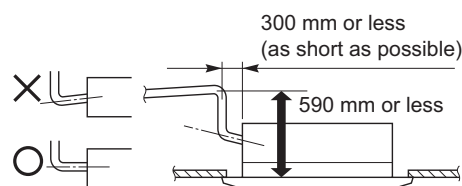

Fig. 2-171
- If it is necessary to increase the height of the drain pipe, the pipe can be raised a maximum of 590 mm from the bottom of the ceiling. Do not raise it any higher than 590 mm, as this could result in water leaks. (Fig. 2-171)